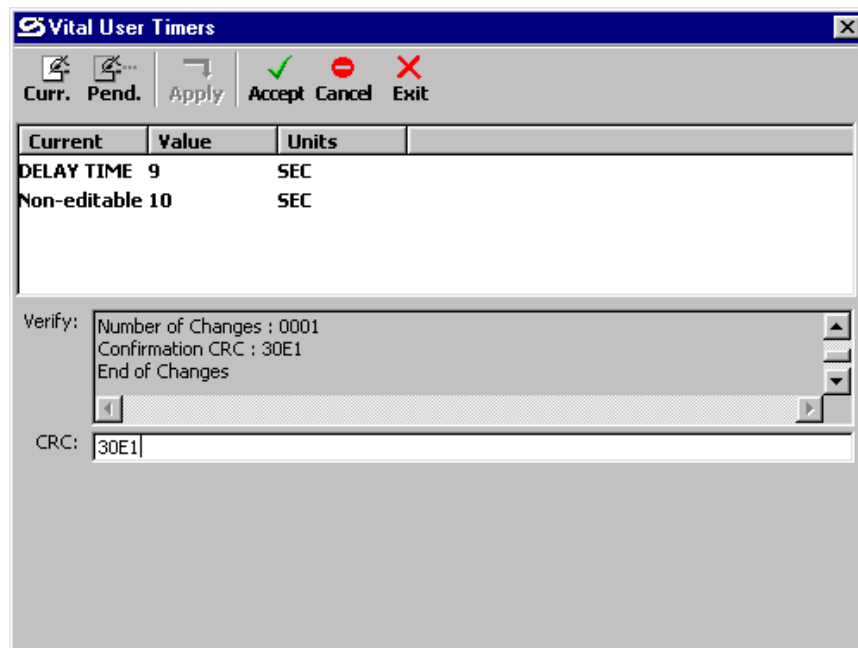

Figure 3-56
11. If the changes are correct, scroll down until the Confirmation CRC value is displayed and then enter this value in the “CRC” text box immediately below the “Verify” list box (figure 3-56). Entering the CRC ensures that the changes are confirmed with the GEO™ unit. This entry is not case sensitive.